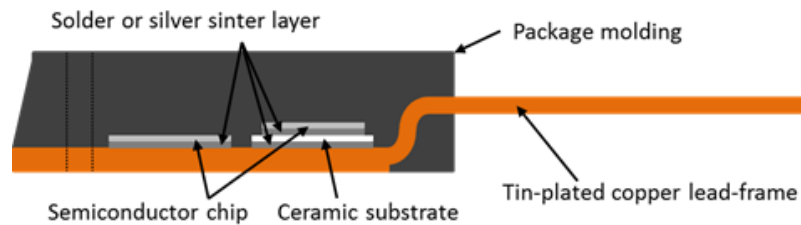

Figure 1. Cross Section of TO-247 (Bond Wires Excluded and Some Proportions Exaggerated for Clarity)
**onsemi** THT devices are constructed on a 100 % matte tin plated copper lead-frame, as shown in a cross-section drawing of a TO-247 below in Figure 1. The TO-220 and other THT device construction are similar.
Bond wires are not shown in Figure 1, but wire bond connection integrity is an important factor relating to rapid, extreme temperature cycling. A THT device should not be immersed into molten solder. Only the leads should be exposed to the molten solder, preferably after preheating.